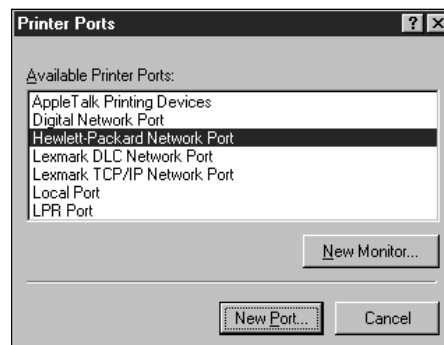

FIGURE 6-8 Adding an Hpmon port
6. In the Printer Ports dialog box, click the Hewlett-Packard Network Port. Figure 6-8 shows the Printer Ports dialog box. Notice that the Hewlett-Packard Network Port is selected. Click New Port.